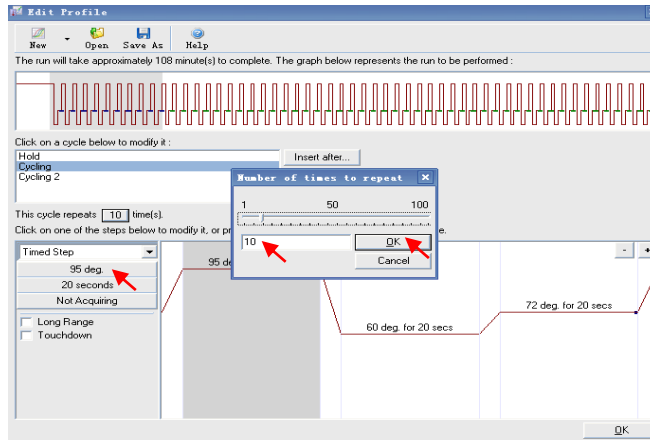

Figure 7
b. For the cycling stage, first choose “Cycling”, click on “this cycle repeats times” and set as 10 times, then click on “OK”(Figure 7).